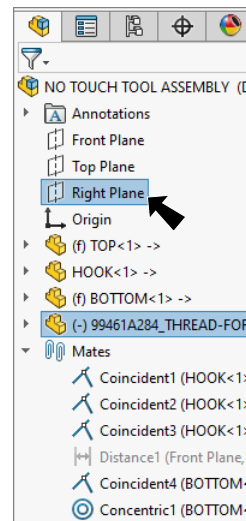

Fig. 10
Step 1. Click Zoom to Fit (F) on the View toolbar.
Step 2. **Ctrl click Right Plane** and **Screw** in the Feature Manager to select both, **Fig. 10.**